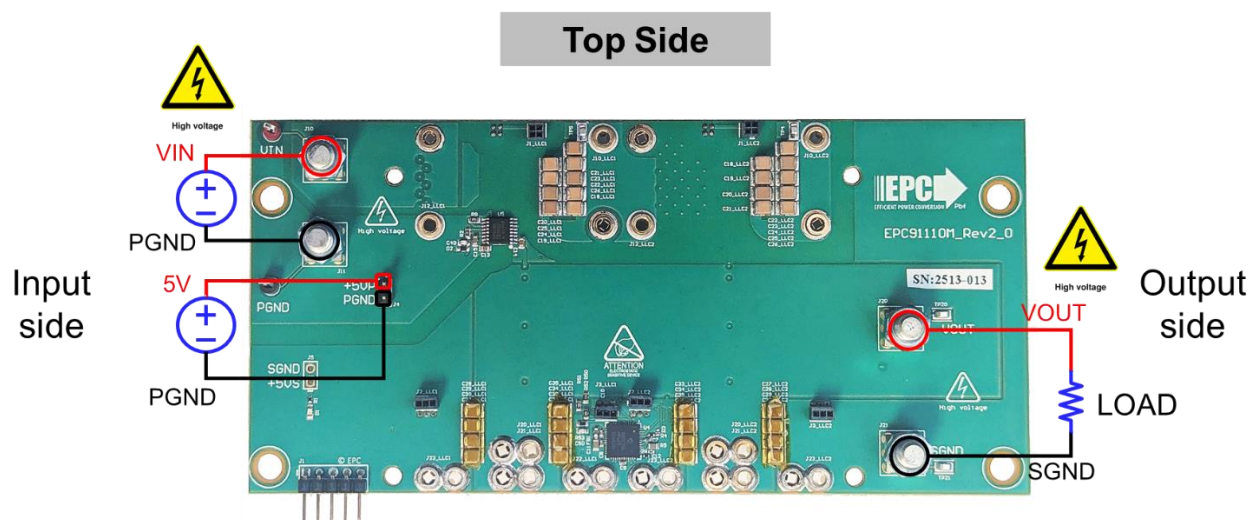
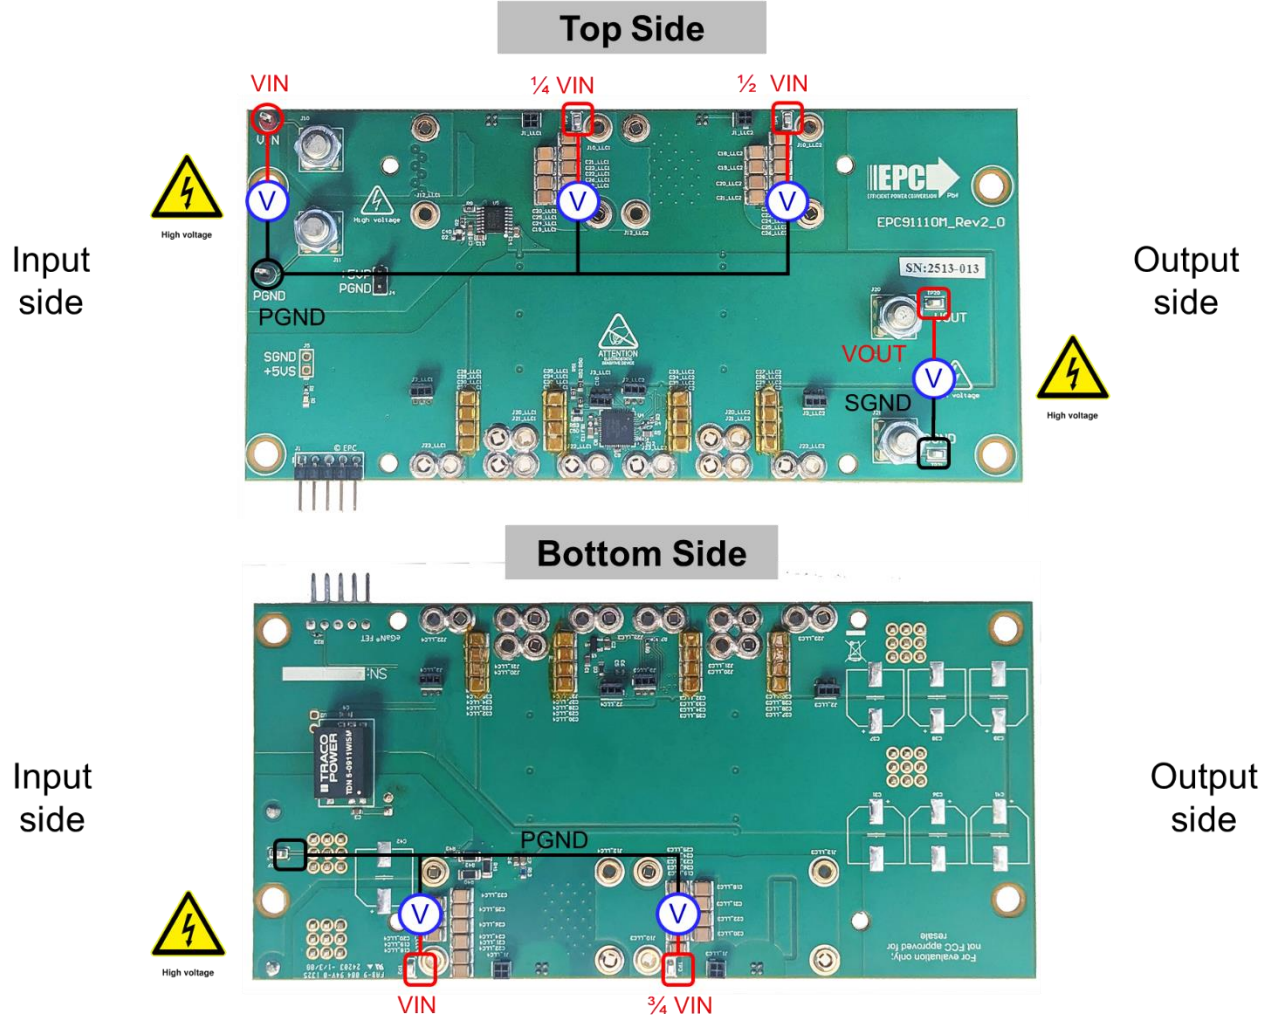

Figure 6: Power connections to the EPC91110KIT.
Figure 7: EPC91110KIT hookup locations for DC measurements
Figure 6 shows the power connections needed to operate the EPC91110KIT. Figure 7 shows the measurement points available on the motherboard to sense the input and output voltages as well as the intermediate input voltages to verify adequate input voltage sharing among LLC modules.
- 2) Connect the housekeeping power supply to 5V/PGND as shown in Figure 6. It is recommended to use a power supply of at least 2 A, even though the current consumption should be lower, between 700-800 mA.
- 3) Connect the load to VOUT/SGND as shown in Figure 6. Set the load to 0 A.
- 4) Connect the input supply to VIN/PGND as shown in Figure 6.